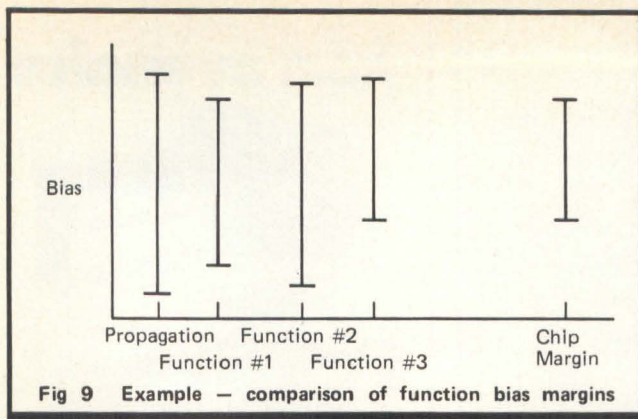

Fig 9 Example — comparison of function bias margins
- **Characterization Test** produces "Schmoo" plots of bias margin as a function of the amplitude, position and duration of each device function. Overall device and propagation margins are also tested (Fig 9).
Because of its importance, much of the current testing procedure inspects the change in bias margin as some other testing variable changes. If the magnetic bias field is too large, bubbles will tend to collapse and disappear. If the field is too small, the bubbles will become too large for one storage location and will 'strip out' during propagation. For current devices with a nominal bias field of about 120 Oersteds, the margin may vary from 8 to 20 Oersteds. To ensure the most reliable operation of the device, this margin should be as large as possible. In general, each Permalloy element and each bubble function has its own operating margin. These margins do not fully overlap (Fig 9). The overall operating margin is the intersection of the margins of all of the functions. Advanced testing techniques such as the Radar Longevity Program allow us to test the operating margin of each device element. Thus we can correct the device design and detect mask defects as well as identify individual device defects.